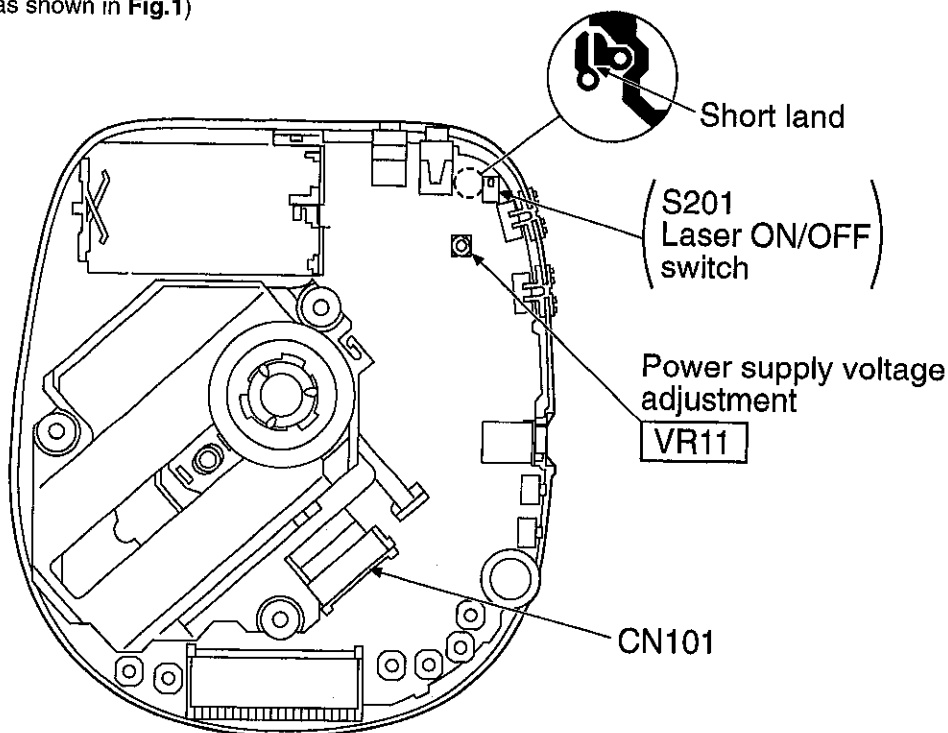

Fig. 1
Short-circuit the lands of the laser ON/OFF switch (S201) by soldering them. It turns "ON" position. (Refer to below Fig. 1. or printed circuit board and wiring connection diagram for short land location on page 18.)
2. Take care to connect CN101. (as shown in Fig.1)
2. Connect the AC adaptor cord to the DC (IN) port and move the PLAY switch to the ON position. Anti-shock is set in OFF position. (Use a new dry cell battery or a rechargeable battery that is full charged.)
4. Adjust **VR11** on the P.C.B. at $2.45 \pm 0.02V$, as shown in Fig.1.